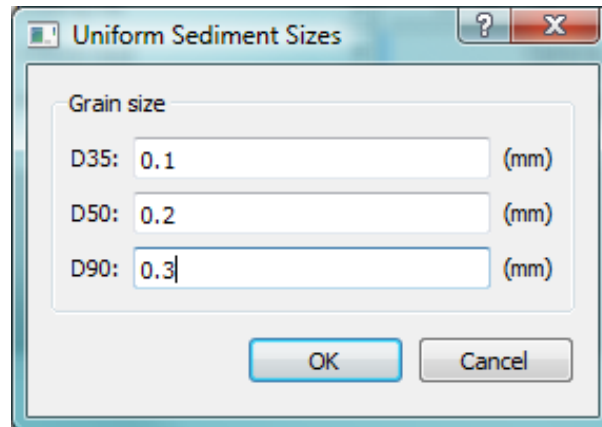

Figure 8. Pop-up window used to identify uniform bed grain size distribution.
6. *Native sediments grain size* - Input information about the bed sediments over the domain. Select "*Uniform bed*" from the *Options* column for specification of a single grain type for the entire domain. Click "*Options*" in the *Filename* column. This opens a pop-up window where the three representative grain sizes can be entered (Figure 8). For spatially varying grain sizes, PTM requires native bed sediment data specified as datasets, d35, d50, and d90, in the CMS-Flow grid: